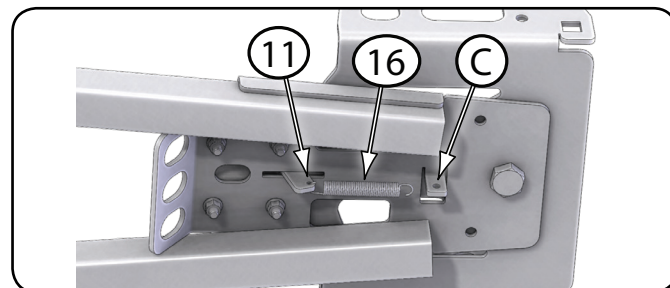

Figure 6 - Pivot Lever Spring Install
4. Install the pivot lever spring (16) to the tab on the tube weldment (C) and the hole in the pivot handle (11) as shown in Figure 6.